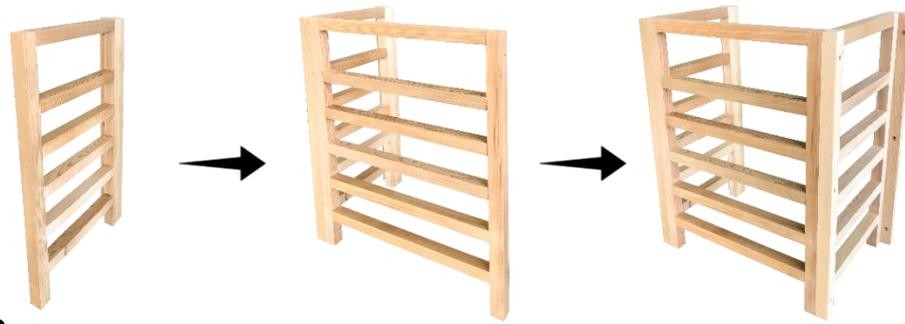

Figure 9
1. First, you will need to locate the wood housing for the heater and assemble it using the provided 3.5x40mm wood screws. (see Figure 9)